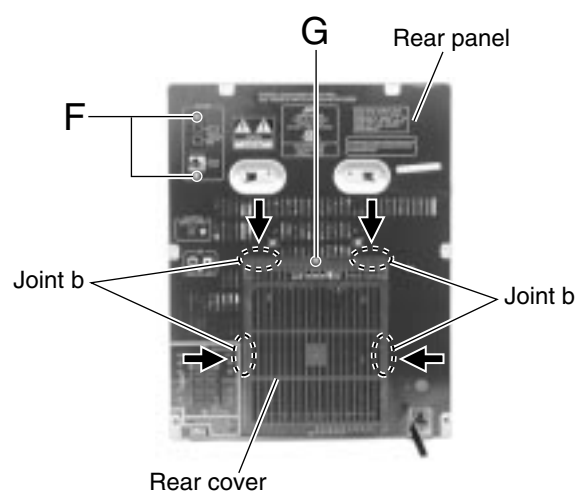

Fig.12
■ Removing the rear cover / rear panel (See Fig.12 to 15)